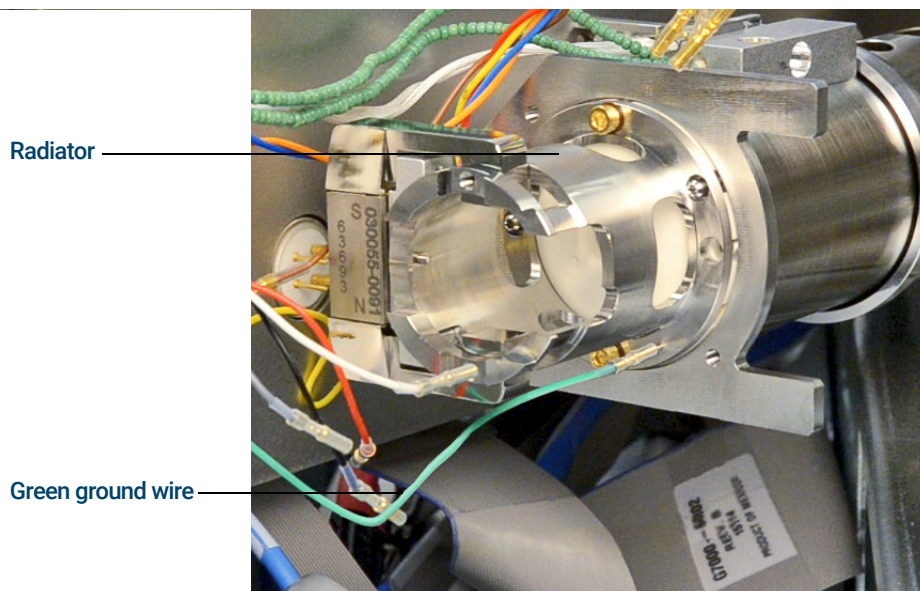

Figure 74 CI Source radiator
- 2 Connect the green ground wire to the radiator. (See **Figure 74**.)